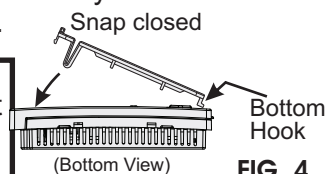

FIG. 4
- 3 Place the bottom hook of the battery cover into the slot and snap closed (fig. 4).